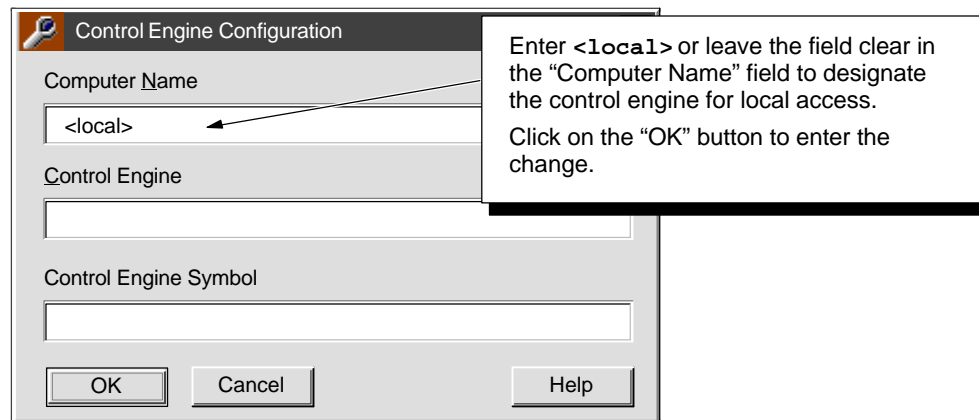

Figure 9-8 Configuring a Control Engine for Local Access
3. As shown in Figure 9-8, enter <local> or clear the field in the “Computer Name” field. If you leave the field empty, <local> is inserted automatically.